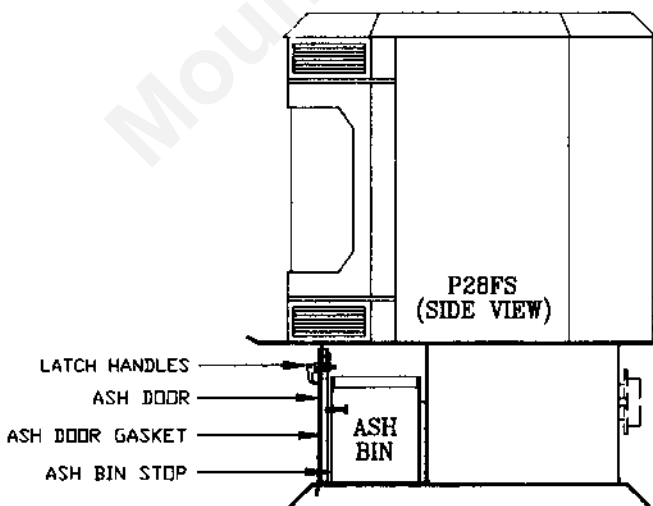

Figure 7
- f. Remove ash pan by lifting latch handles and turning counter clockwise 90 degrees (see Figure 7). Ash door will now lay down. Lift ash pan and pull out. (Be careful of ash door gasket.) Dispose of ashes (See 4.0).